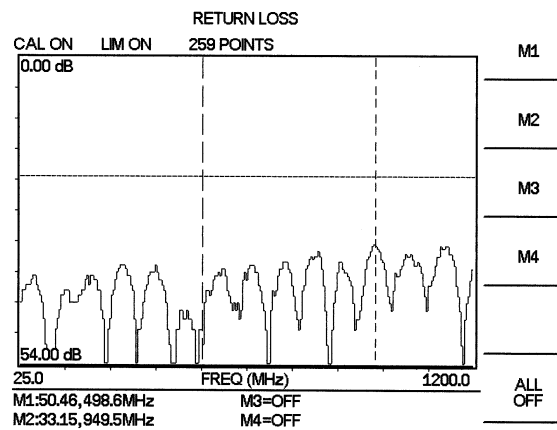

Figure 4-5. Cable Return Loss Measurement Results
**Step 17.** Observe the displayed measurement. Figures 4-5 and 4-6 show typical SWR and Return Loss measurements with markers and limit line set.
**Step 25.** Repeat steps 22 and 23 for marker M2. Set M2 to 950 MHz (Figures 4-5 and 4-6 depict the Return Loss and SWR measurements).